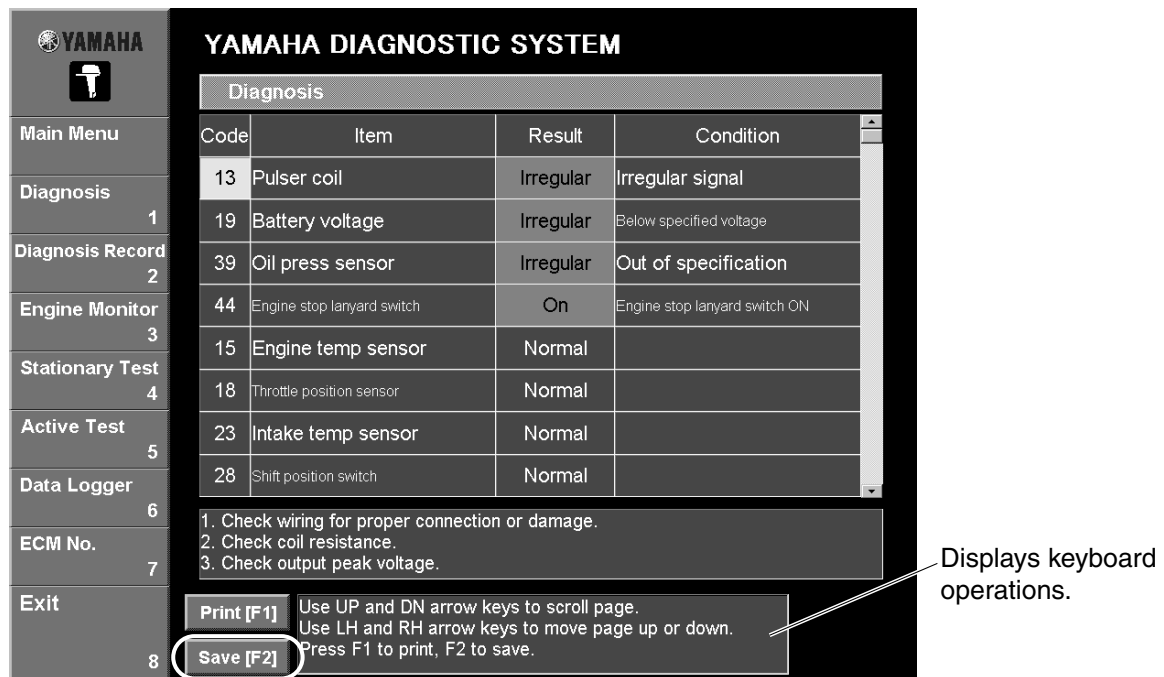

Fig. 13
1. Click the **Save [F2]** button or press the F2 key on your keyboard. The **Save As** dialog box is displayed. (Fig. 13)